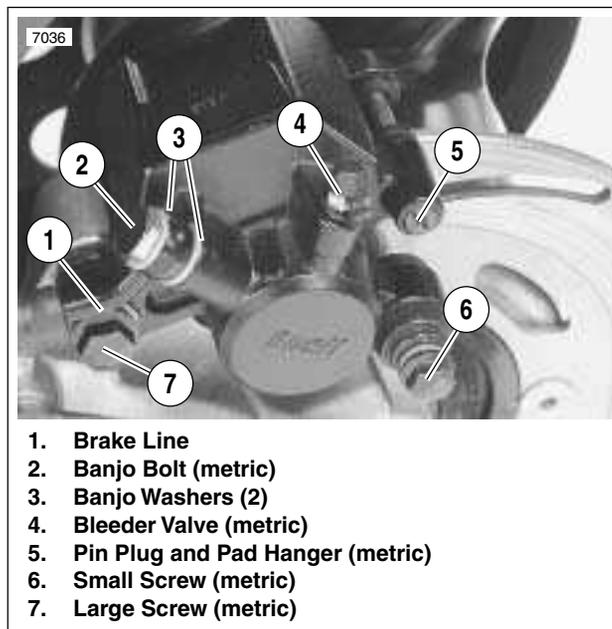
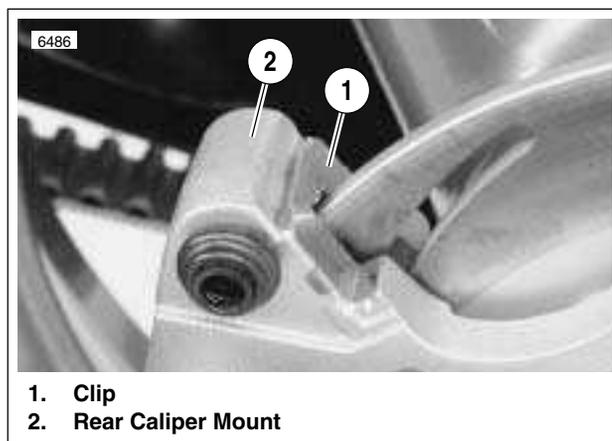

Figure 2-44. Rear Brake Caliper
Figure 2-45. Caliper Mount Clip
2. See Figure 2-44. Remove banjo bolt (2) (metric) and two banjo washers (3) to disconnect brake line (1) from caliper. Discard banjo washers.
3. Remove small screw (6) (metric) and large screw (7) (metric) to detach caliper from mount.
4. See Figure 2-45. Remove clip (1) from rear caliper mount (2) if necessary.
1. See Figure 2-44. Remove pin plug and pad hanger (5) (metric) to free brake pads.
1. See Figure 2-45. Install caliper mount clip (1) if removed.
2. See Figure 2-44. Install caliper assembly on caliper mount. Brake pad surfaces must face rear brake rotor.
- b. Install large caliper screw (7) (metric). Tighten to 18-22 ft-lbs (24-30 Nm)
- c. Install small caliper screw (6) (metric). Tighten to 14.5-18 ft-lbs (20-24 Nm).